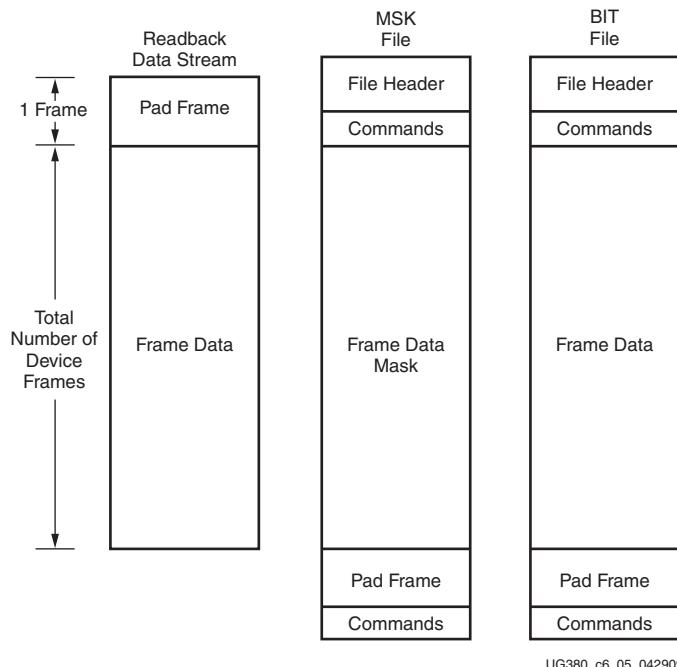

Figure 6-5: Comparing Readback Data Using the MSK and BIT Files
2. Compare readback data to the configuration BIT file, mask using the MSK file (see Figure 6-5).